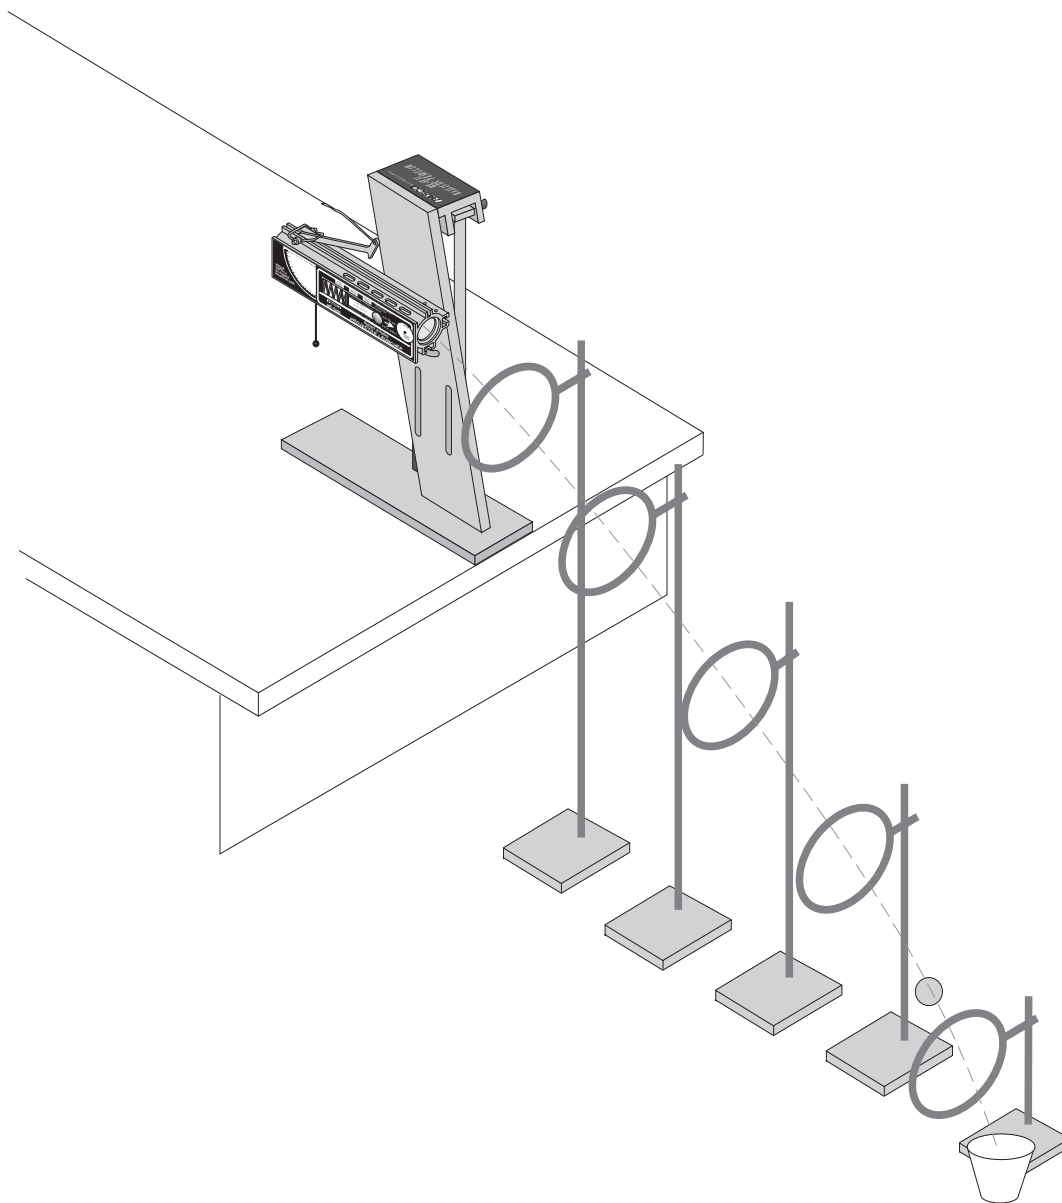

Figure 12.1 Placing the rings
- ③ Lay the 2-meter stick on the floor in a straight line away from the launcher. Remove the back mounting screw from the launcher base so the back of the launcher can be rotated upward. Look through the back of the launcher and align the sights and the end of the 2m stick so the 2m stick is aligned with the path of the ball. Relevel the launcher.
- ④ Measure off each set of x and y and place a ring clamp on a stand at each position (See Figure 12.1). If possible it is best to adjust the last two ring stands at an angle from the vertical so the ball will not have to pass through them at an oblique angle. A cup may be placed at the end of the path to catch the ball.
- ⑤ Launch the ball through the rings.
- ⑥ Ask the class what shape of curve is formed by the rings.